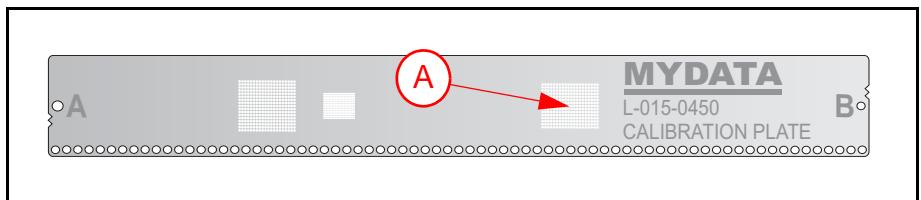

Figure 9-2. L-015-0450 Area calibration plate.
3. When prompted, center the camera on the area calibration plate pattern ('A' in Figure 9-2).